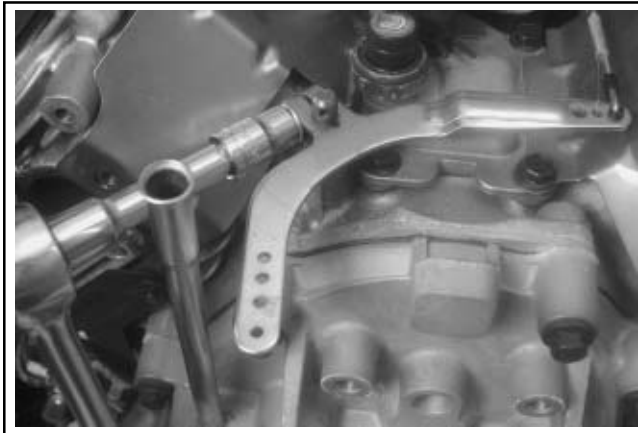

Figure 9-22. Removing Governor Lever.
1. Loosen the hex. flange nut and remove the governor lever from the cross shaft. See Figure 9-22. Leave lever attached to the throttle linkage and lay assembly on the top of the crankcase.